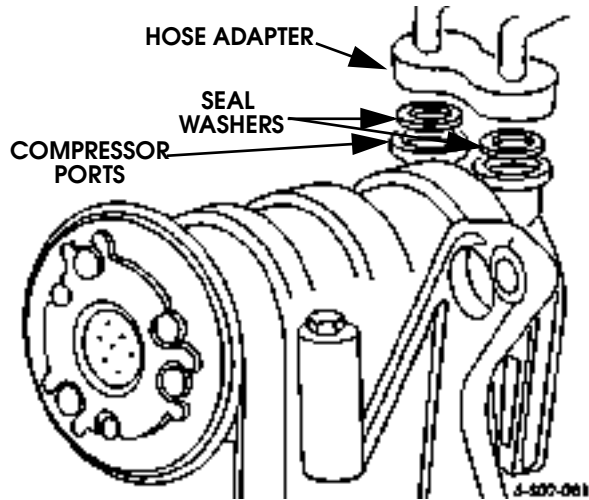

Figure 2-61: Suction/Discharge Hose Connection
- 34. Remove protective wrapping or caps and connect hoses to A/C condenser and oil coolers. Use new O-rings on cooler and A/C hoses (Figure 2-61).